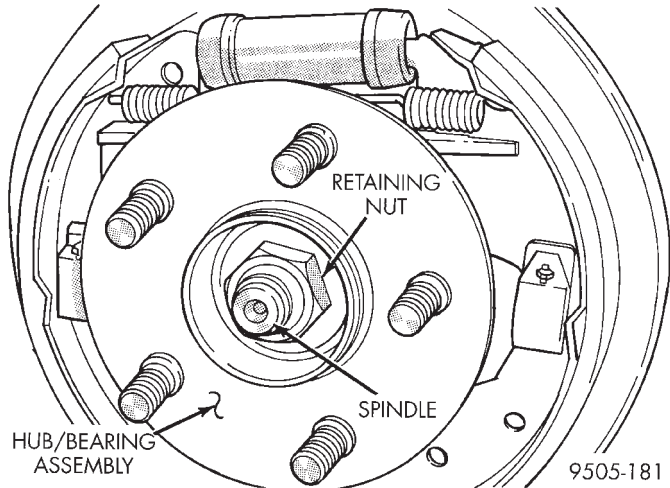

Fig. 20 Hub/Bearing Assembly Retaining Nut
(4) Remove dust cap from rear hub and bearing assembly by prying it off.
(5) Remove hub and bearing assembly to rear spindle retaining nut (Fig. 20).
(6) Remove rear hub and bearing from the spindle by pulling it straight off the spindle by hand.
(1) Install the hub and bearing assembly on the knuckle spindle. Install a NEW retaining nut (Fig. 20). Tighten the retaining nut to a torque of 250 N·m (185 ft. lbs.).
(2) Install the hub and bearing dust cap using a soft faced hammer.